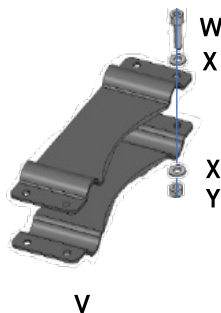

Fig. 15
One Small Wheel Adapter (V) is provided for 16" front wheels. See Fig. 15 for its use. Additional Small Wheel Adapters are available from your dealer.